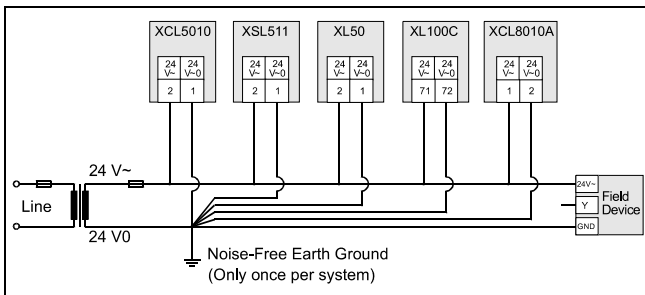

Fig. 99 Connecting and earth grounding mixed controllers (single transformer)
- ▶ Make sure that earth ground is connected to the correct terminal according to Fig. 99 and the respective connection diagrams.